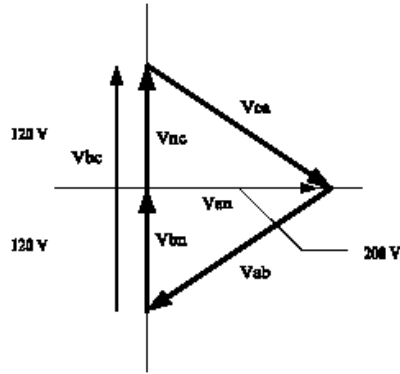

Fig 1.5: Phasor Diagram Showing Three-phase, Four-wire Delta Connected System
- Another common Delta connection is the four-wire, grounded delta used for lighting loads. In this connection, the center point of one winding is grounded. On a 120/240 volt, four-wire, grounded Delta service the phase-to-ground voltage would be 120 volts on two phases and 208 volts on the third phase. Figure 1.5 shows the phasor diagram for the voltages in a three-phase, four-wire Delta system.